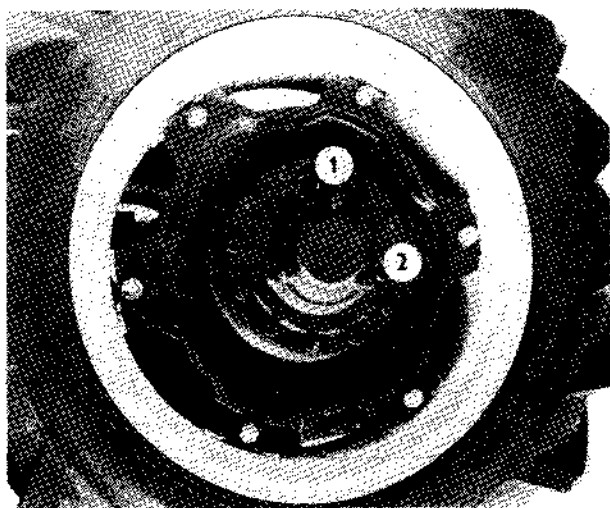

Fig. 16
20. Reducer oil filling hole (Fig. 16/1).
21. Reducer oil drain plug (Fig. 16/1).
22. Reducer oil check hole (Fig. 16/2).